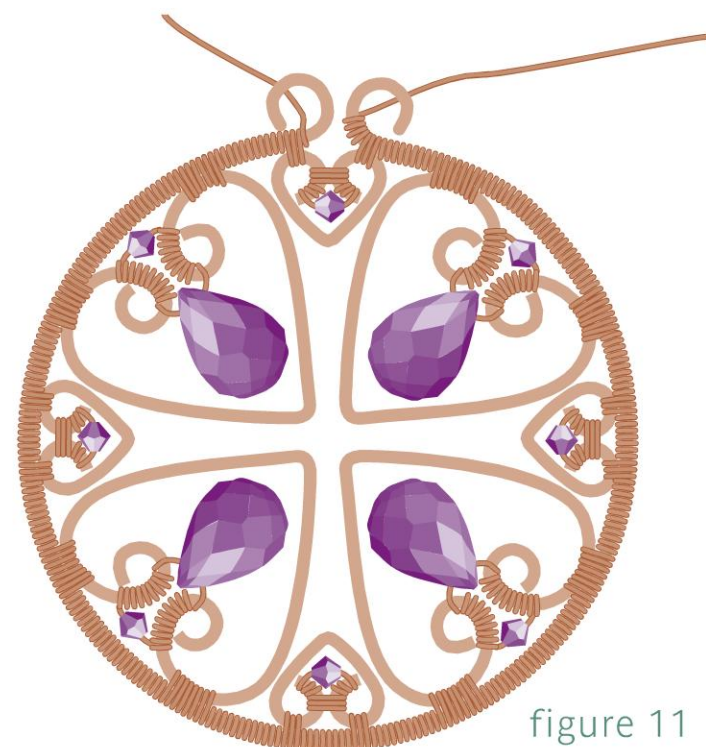

figure 11
**27** Align the center of the mini-heart frame by pushing the coil on the outer frame wire away from the two center loops on both sides until the mini-heart frame is centered between the two outer frame loops (Figure 11).